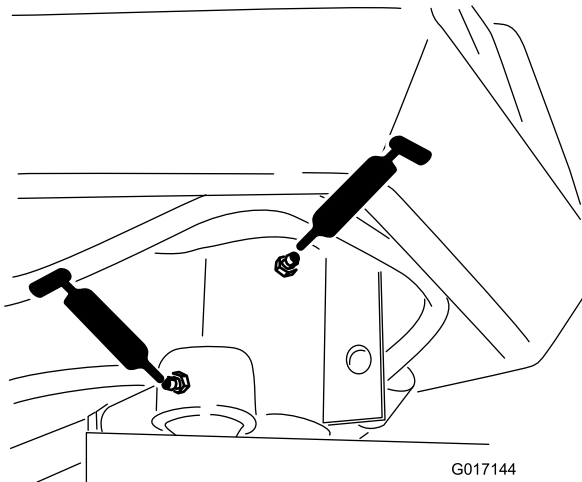

Figure 31
- Steering-fork shaft (1) (Figure 31)
- Steering-cylinder-rod end (Figure 31)